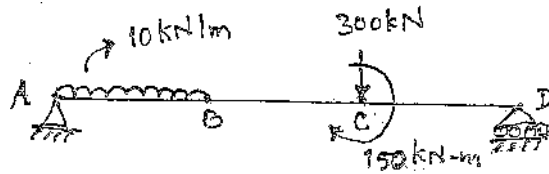

Fig. 11.1
11. a) A beam 6 m long is loaded as shown in figure 11.1. If the flexural rigidity of the beam is $8 \times 10^4 \text{ kN/m}^2$, find